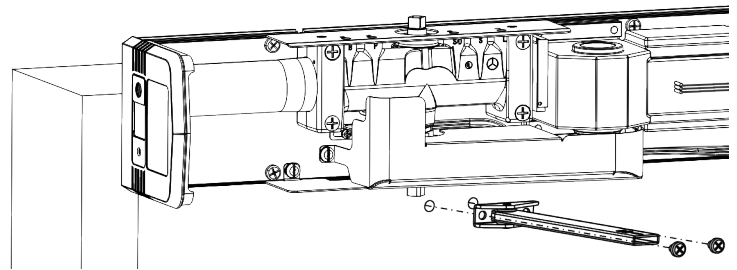

Figure 19
1. Using previously prepared holes in door, install two (2) 1/4-20 x 1-5/8" screws through shoe and into sex bolts. (Figure 19)